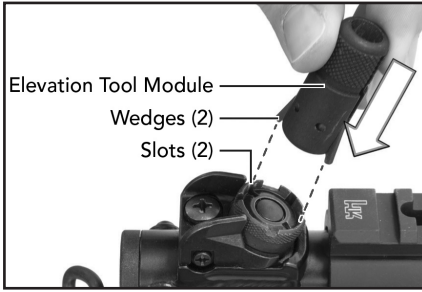

Fig. 15 – Insert elevation tool module into rear sight
1. Insert the elevation tool module into rear sight while inserting the wedges of the tool into the slots of the rear sight (Fig. 15).
1. Insert the elevation adjustment module tool into rear sight while inserting the wedges of the tool into the slots of the rear sight (Fig. 15).